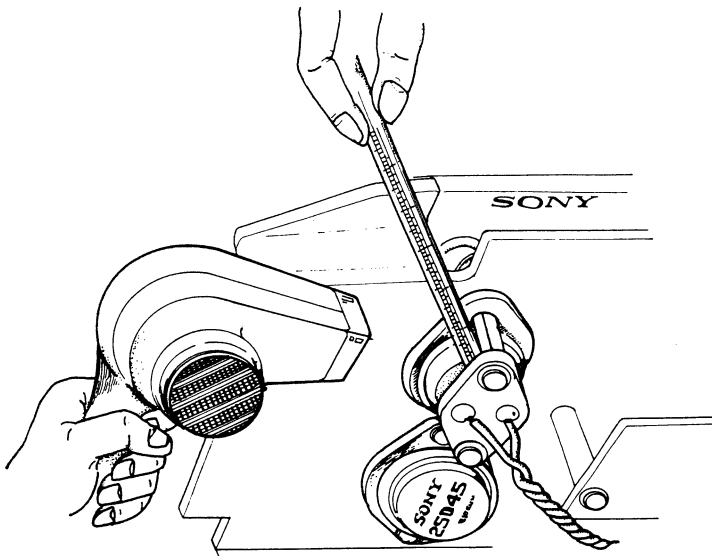

Fig. 2-5.
Step 3: Insert a thermometer between power transistor and thermistor then heat the thermistor and transistor gradually by heat blower, as shown in Fig. 2-5. Conventional hair dryer (blower) is available.
(1) In case the output goes off at below  $139^\circ\text{F}$